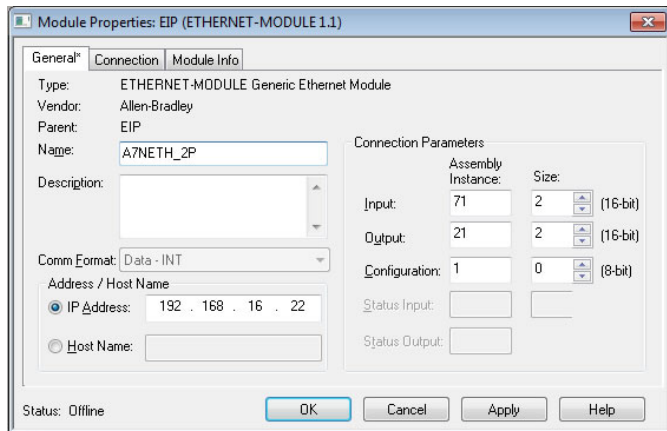

Figure 50: AC/DC Drive Profile Generic Ethernet Module Configuration
- 1) Complete all the steps in section 9.2.12. Please note that the Assembly Input Instance must be changed to 71 and the Assembly Output Instance must be changed to 21. Refer to Figure 50.